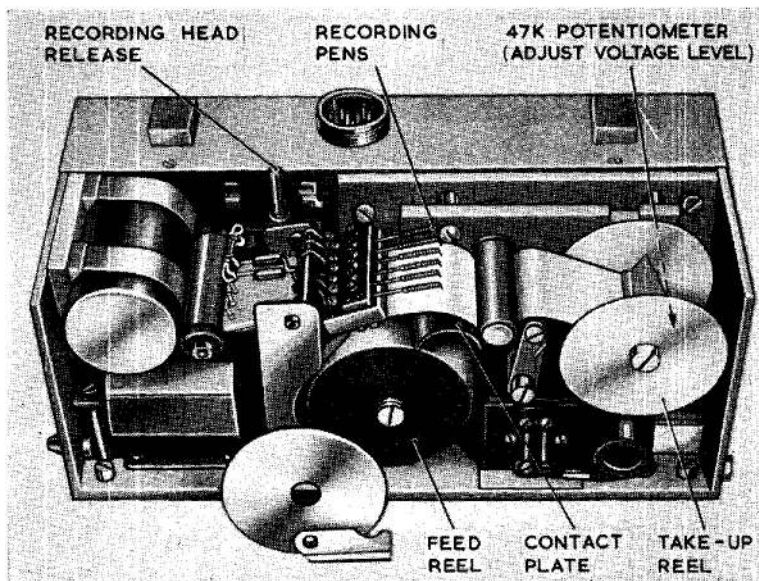

Fig. 4. Recorder
10. The recorder used with the test set is the Event Type 10 (fig. 4). The travelling paper (teledeltos paper), which is carried by two reels, the feed reel and the take up reel, is a black graphite-unpregnated paper, faced with white tissue. The reels are driven by a permanent magnet motor and the paper, tissue uppermost, passes over a contact plate which is at chassis potential. The recording pens when energized, leave a trace on the paper by burning away the tissue immediately below the pen.